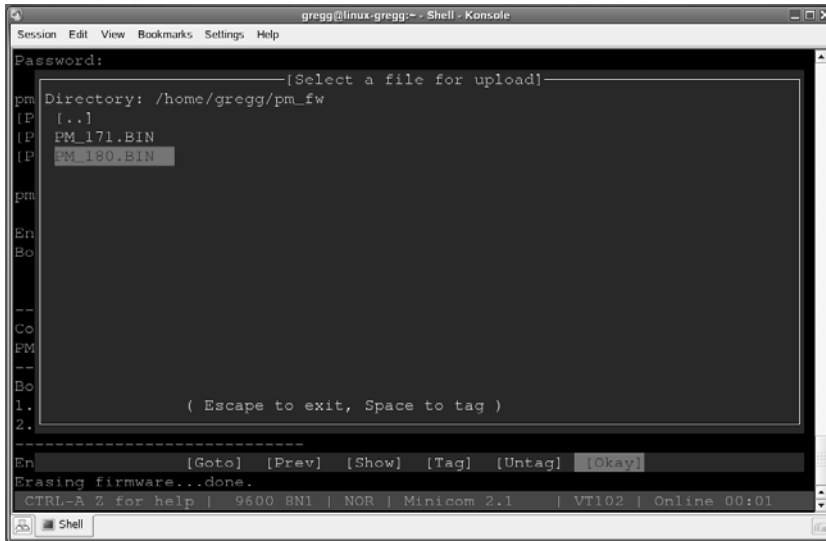

Figure 3.2: Sending Firmware using Minicom
3. Move the cursor next to the Cyclades PM IPDU firmware file for upload, and press the **Spacebar** to tag it. See Figure 3.2.